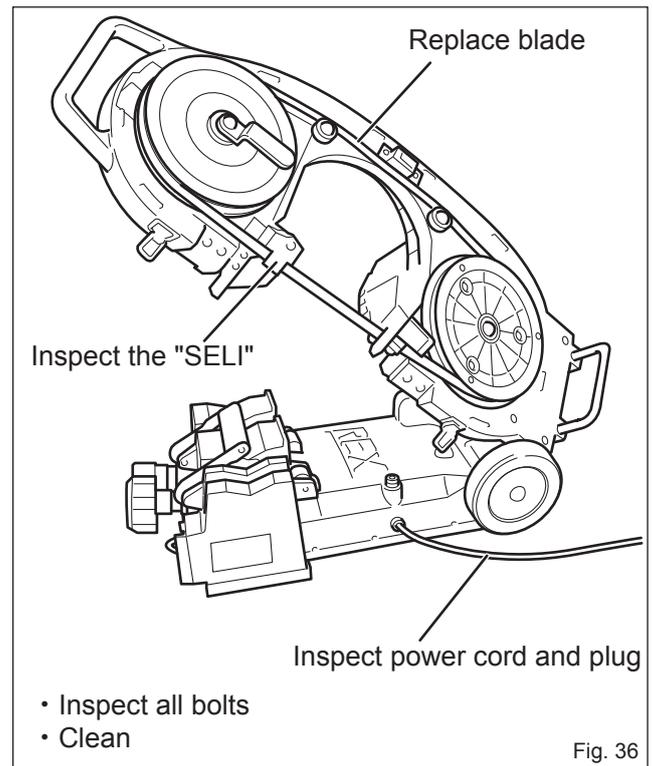

Fig. 36
2. Maintenance of Parts (Fig. 36)